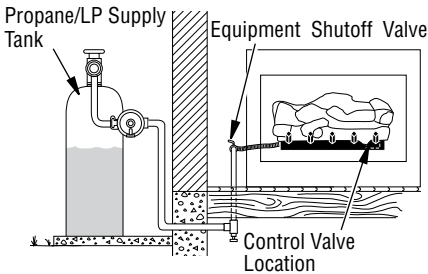
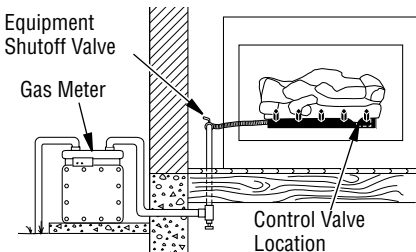

Figure 15 - Checking Gas Joints (Propane/LP Only)
Figure 16 - Checking Gas Joints (Natural Gas Only)
3. Check all joints from gas meter to equipment shutoff valve for natural gas or propane/LP supply to equipment shutoff valve for propane/LP (*see Figure 15 or Figure 16*). Apply noncorrosive leak detection fluid to all joints. Bubbles forming show a leak.
4. Check all joints from gas meter to equipment shutoff valve for propane/LP (see **Figure 15**, or **Figure 16**). Apply noncorrosive leak detection fluid to all joints. Bubbles forming show a leak.